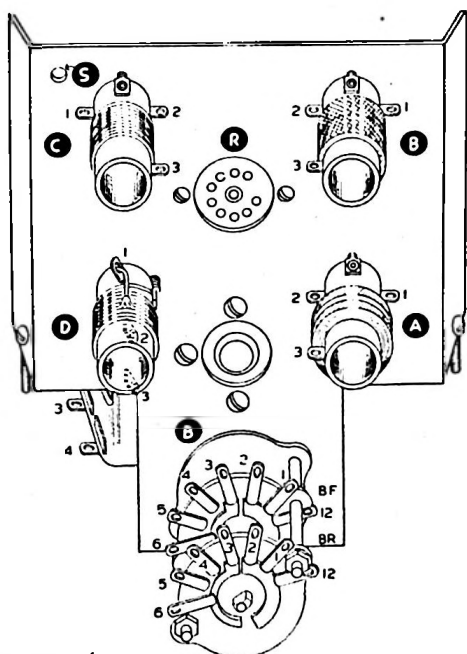
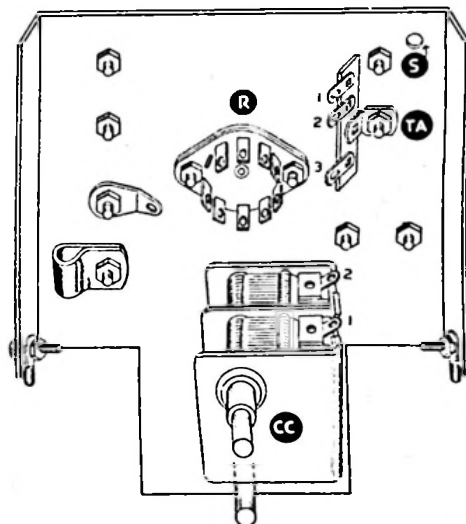
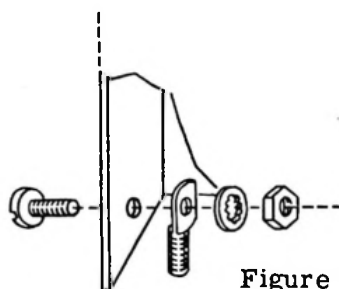
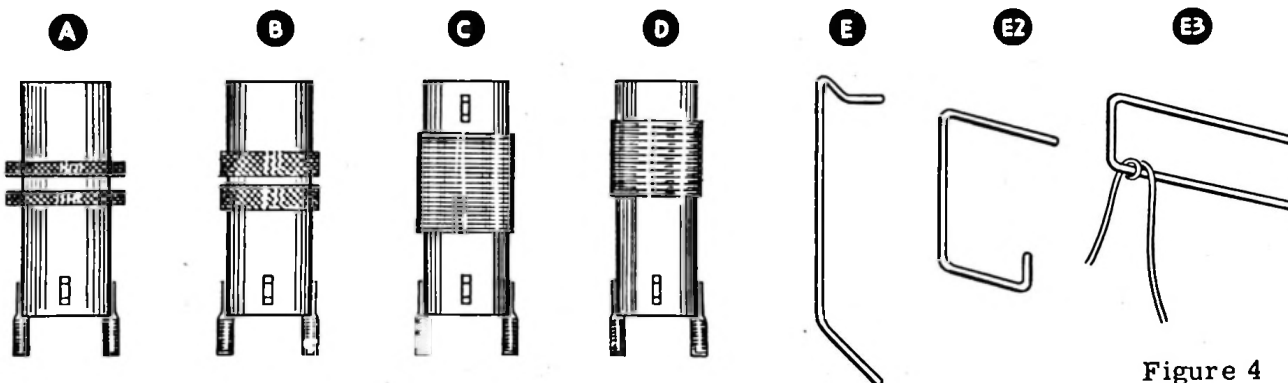

Figure 1
Figure 2
Figure 3
Figure 4
- () Mount two 6-32 spade bolts on the sub-chassis aprons as shown in Figure 2. Method of mounting is shown in Figure 3.
- () Mount a 9-pin miniature socket R on the sub-chassis, using 3-48 screws and nuts. Position as shown in Figures 1 and 2.
- () Mount the tuning condenser as shown in Figures 1 and 2, using 3/16 6-32 screws with lockwashers under the heads.
- () Mount the band switch B, using a control lockwasher and control nut. Omit the flat washer. Position as shown in Figure 2. See Figure 5 for method of mounting controls.
- () Referring to Figure 4 for coil identification, and Figure 1 for coil position, mount the coils A, B, C and D. Referring to Figure 2, note that coil C has a 3-lug terminal strip mounted on its lower mounting screw, and coil A has a solder lug on its upper mounting screw. Use lockwashers on all coil mounting screws except the one having the solder lug.